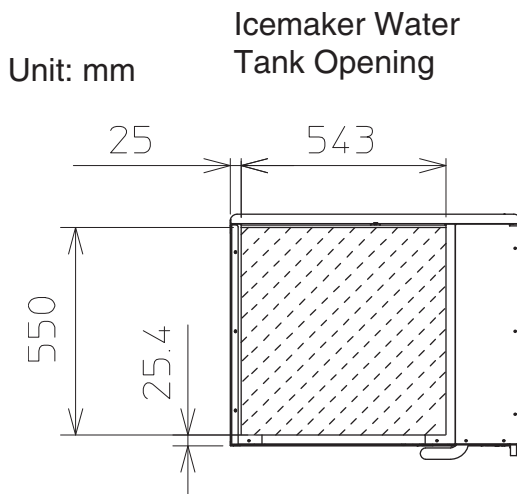

Fig. 5
- 2) Make sure the dispenser unit top kit opening and the icemaker water tank opening match. If not, cut the dispenser unit top kit to the dimensions needed to match the icemaker water tank opening. See Fig. 5.